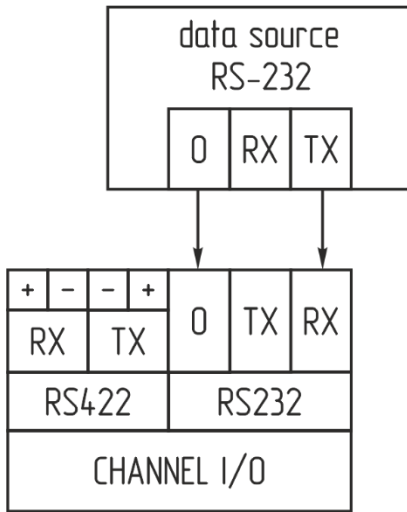

Figure 6 – Connection of data source via RS-232 interface
- connect cables of external devices according to the connection diagrams, see figures 6–12;